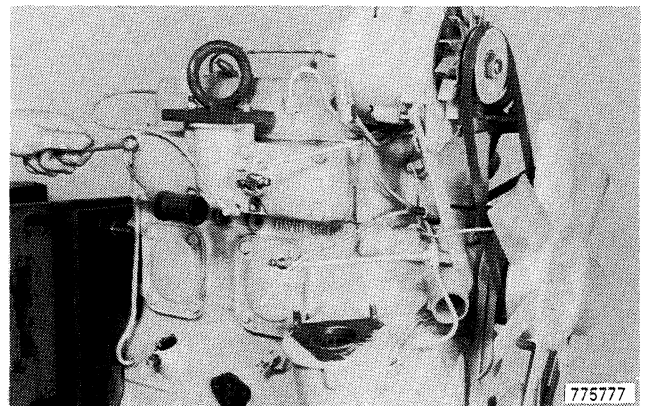

Figure 31
6. Remove the cap screw from the thermostart tube clamp, Figure 31.